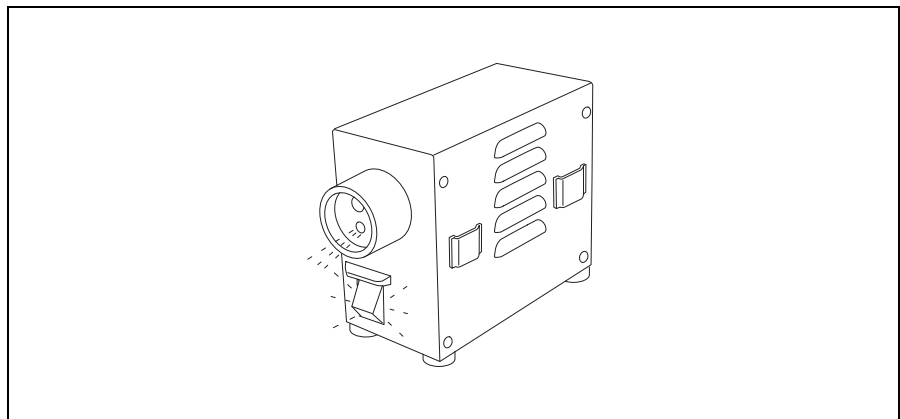

Figure 3.3
3. Confirm that air comes out of the lower hole in the Output Socket (see Figure 3.3).